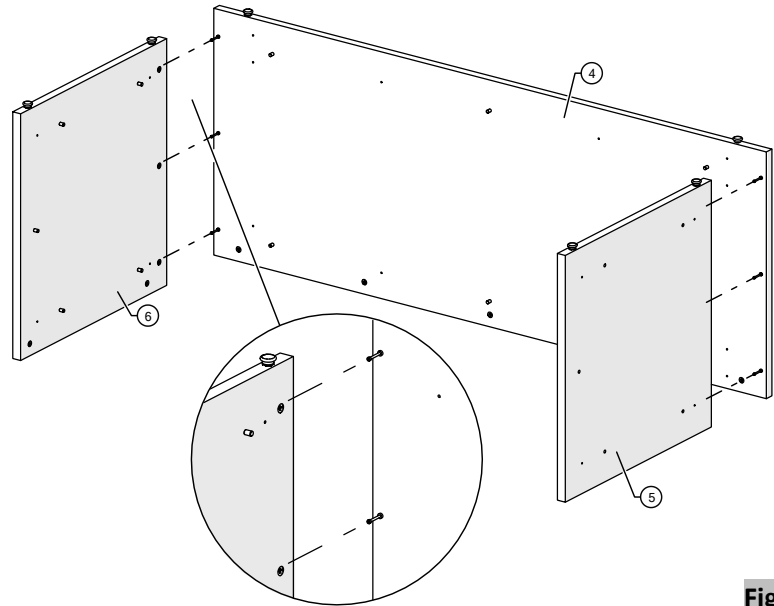

Figure 5
7. Connect the modesty to the gable LH and RH, and press tightly together by inserting the combi dowels into the side holes of the gable LH and RH (Figure 5).